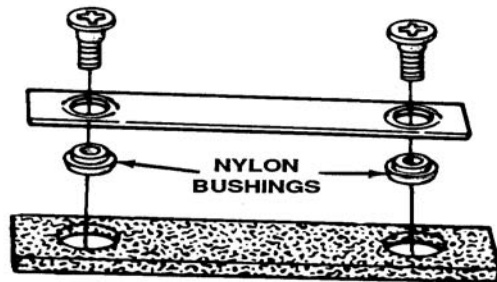

Figure 3-13. Safety Seat Disassembly
- c. Remove phillips head screws, metal plate, bushings and foam pad. See Figure 3-13.